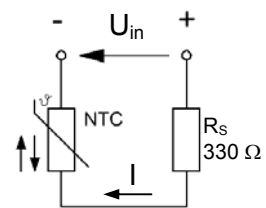

Fig. 3.7.3.1: Series circuit with NTC
- In the circuit in Fig. 3.7.3.1, a protection resistor  $R_S$  is connected in series with an NTC. At  $\vartheta = 25^\circ\text{C}$  and  $U_{in} = 20\text{ V}$ , the current flow stabilises at  $I = 4\text{ mA}$ . Determine by calculation, the values of:  $R_{NTC}$ ,  $R_{tot}$ ,  $U_{NTC}$ ,  $U_{RS}$ .